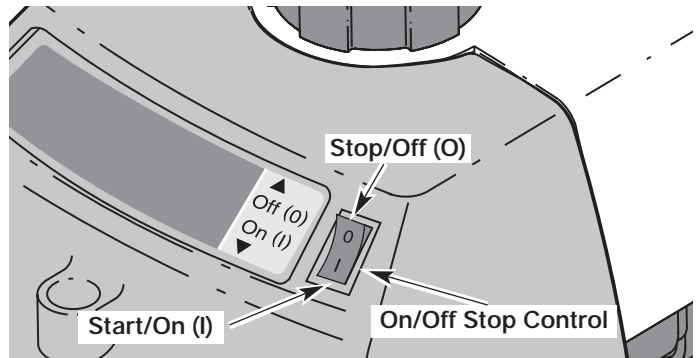
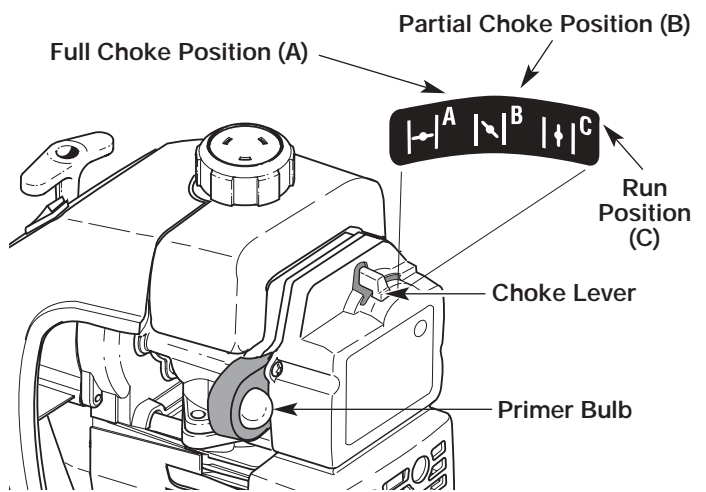

Figure 6
Figure 7
2. Put the On/Off Stop Control in the **ON (I)** position. See Figure 6.
3. Fully press and release the primer bulb 10 times, slowly, until **FUEL IS VISIBLE IN THE PRIMER BULB**. See Figure 7. If you can't see fuel in the bulb, press and release the bulb as many times as it takes before you can see fuel in it.
4. Place the choke lever in the **FULL** choke (A |←|) position. See Figure 7.
6. Place the choke lever in the **PARTIAL** choke (B |↖|) position. See Figure 7.
NOTE: If the engine floods while trying to start, place the choke lever in the **RUN** (C |↑|) position. See Figure 7. Squeeze the throttle control. Pull the starter rope briskly. The engine should start within three (3) to eight (8) pulls.
9. Squeeze the throttle control to warm up the engine for 5 to 10 seconds. Place the choke lever in the **RUN** (C |↑|) position. See Figure 7.
NOTE: Choking is unnecessary when starting a warm engine. Put the On/Off Stop Control in the **ON** position (Figure 6), and start in **PARTIAL** choke (B |↖|) position (Figure 7). After starting, place the choke lever in the **RUN** (C |↑|) position.
2. Put the On/Off Stop Control in the **OFF (O)** position. See Figure 6.